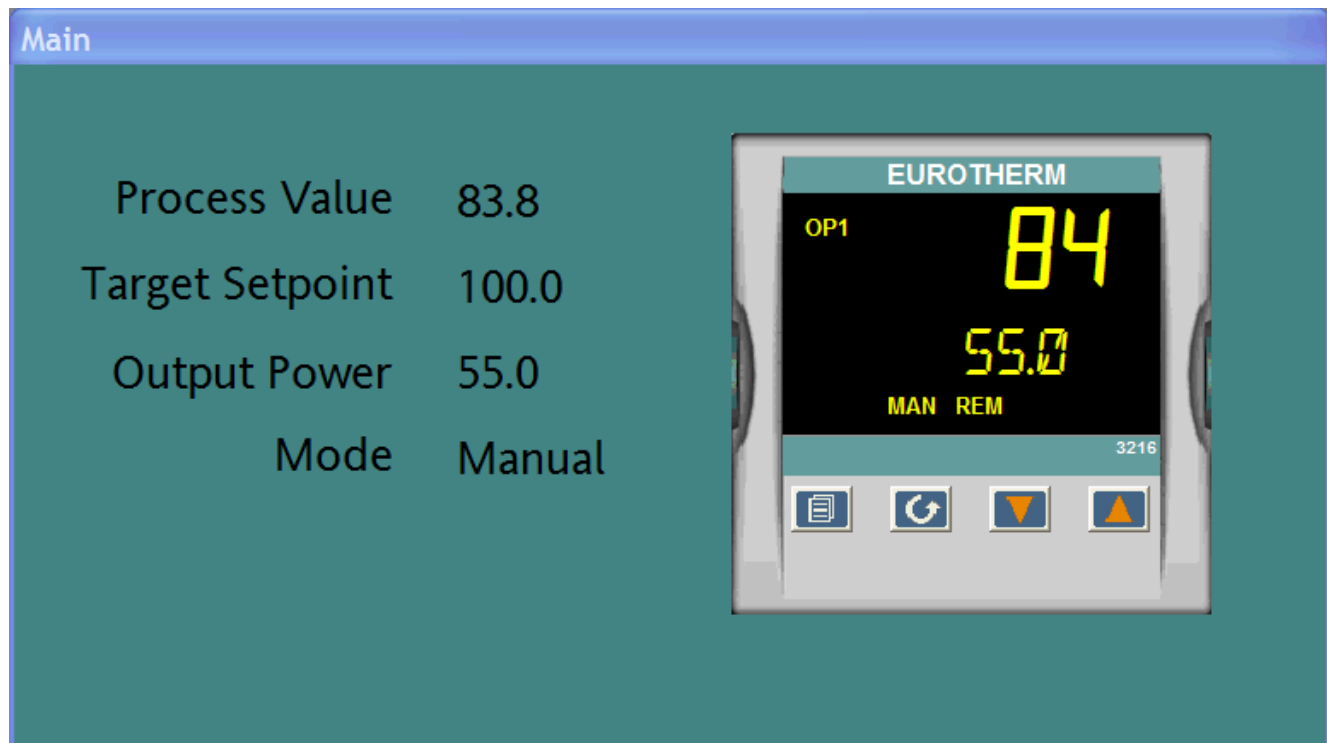

Figure 12
And finally, in Figure 12, the completed WindowViewer runtime display. The four (4) parameters are displayed next to the iTools Series2000Panel ActiveX control. The Process Value is read only while the Target Setpoint, Output Power and Mode are read/write.